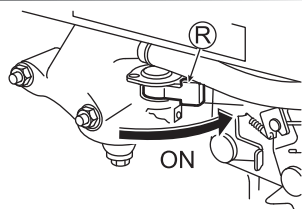

Fig. 10
- 2 Set Fuel cock (R) to "ON". (See Fig. 10)